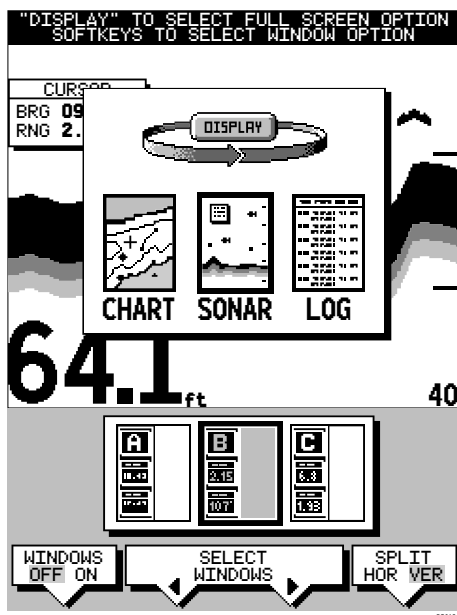

Figure 3-5: Using the DISPLAY Key
- To change the mode, press the **DISPLAY** key to show the DISPLAY pop-up, then press again to cycle through the modes available, shown in *Figure 3-5*.